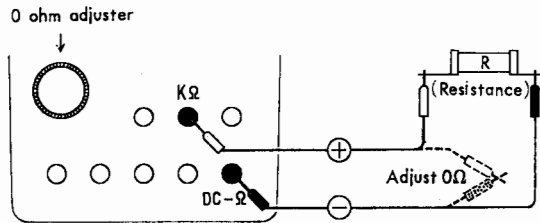

Fig. 4
- a. The test leads are connected to the meter as shown in Fig. 4.